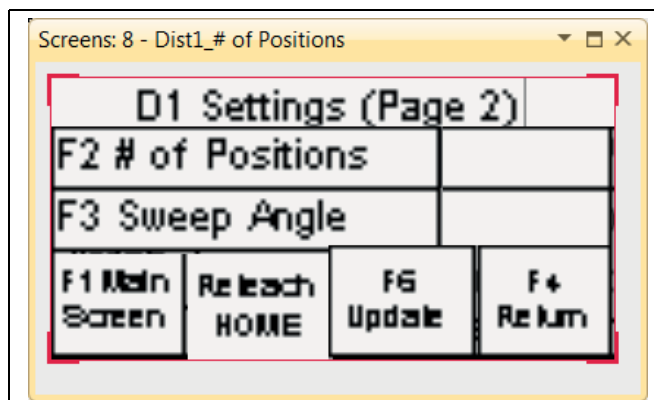

Figure 5F
6. After pressing **F2**, the following screen will appear as in Figure 5F. Press **F2** and enter in the number of spout holes in the distributor. Ignore the sweep angle setting. After entering in the number of positions, press the **F6 Update key**. This updates the settings that have been entered. The Reteach Home will be flashing. This is a reminder that the distributor must be homed. Press the **F4 Return** key. This will take the user back to the previous screen.